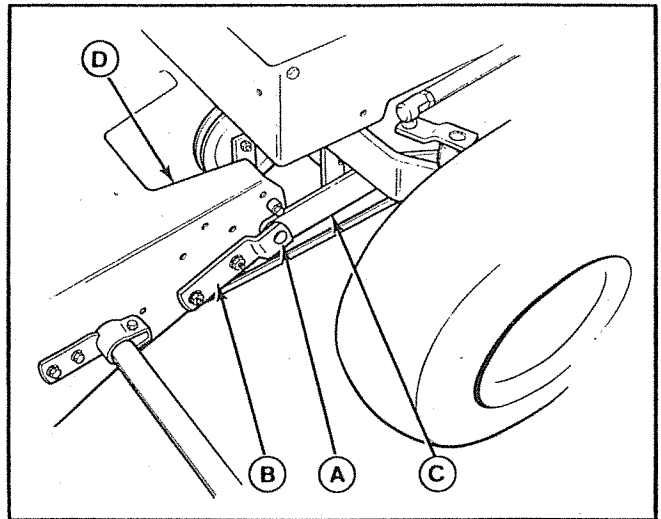

Figure 3. Attach Snowthrower to Hitch
3. Lift up the snowthrower and align with hitch (C) as shown in figure 3. On each side, insert a pin (A) thru the clip (B), hitch, and snowthrower. Install spring clips in the two pins.